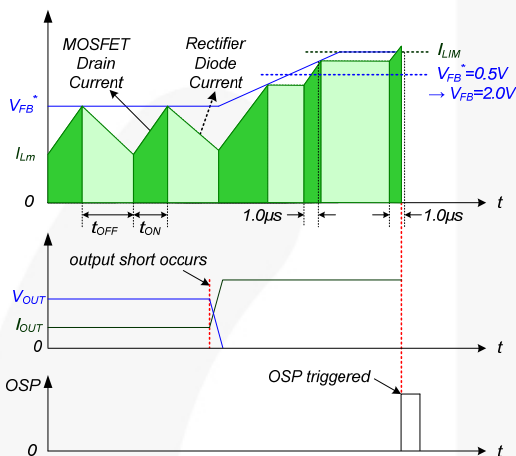

Figure 22. Output-Short Protection
**4.3. Output-Short Protection (OSP):** If the output is shorted, steep current with extremely high di/dt can flow through the SenseFET during the minimum turn-on time. Such a steep current brings high-voltage stress on the drain of the SenseFET when turned off. OSP protects the device from this abnormal condition. It is comprised of detecting  $V_{FB}$  and SenseFET turn-on time. When the  $V_{FB}$  is higher than 2.0V and the SenseFET turn-on time is lower than 1.0 $\mu$ s, this condition is recognized as an abnormal error and PWM switching shuts down until  $V_{CC}$  reaches  $V_{START}$  again. An abnormal condition output short is shown in Figure 22.